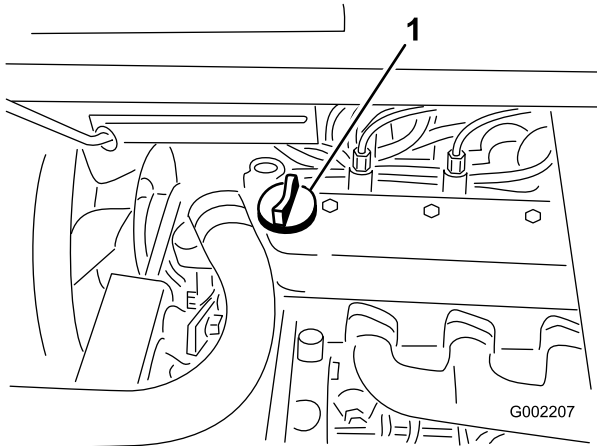

Figure 17
3. If the oil level is low, remove the filler cap from the valve cover (Figure 17) and pour oil into the opening until the oil level is up to the Full mark on